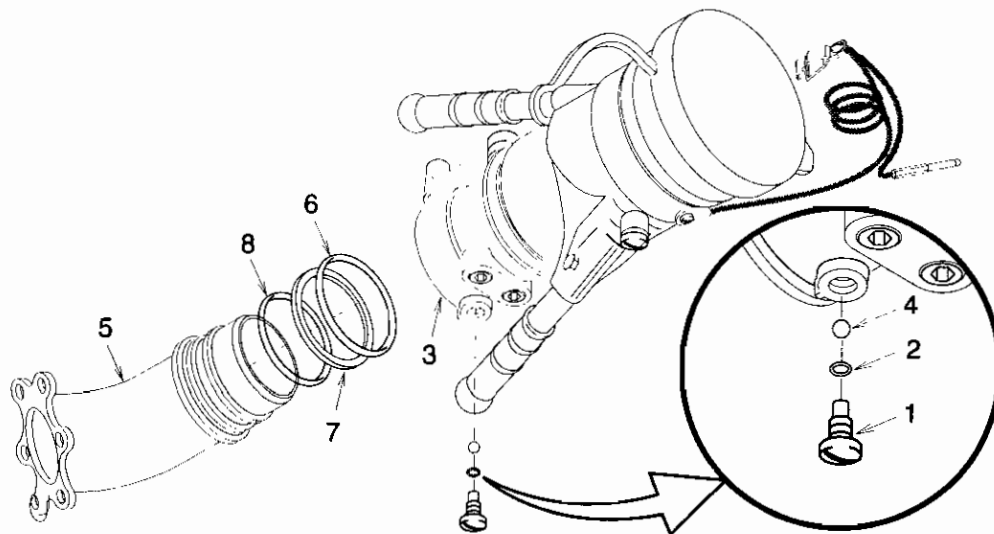

Figure 4-4. Inlet Elbow
- (3) Hold the fuel nozzle body (3) with bolt hole vertical (pointed down) and allow all balls (4) to be removed through the bolt hole. Rotation between the body and the inlet elbow (5) will be required to allow the balls to fall out of the hole.
- (4) Slip the inlet elbow (5) out of the fuel nozzle body (3).
- (5) Remove O-ring (6), seal (7), and O-ring (8) from elbow (5) and discard.
b. Installation See figure 4-4.
- (1) Lubricate and install new O-rings (6) and (8), in the groove in elbow (5) and fuel nozzle body (3), lubricate and install new seal (7) onto inlet elbow (5) on top of O-ring.
- (2) Insert elbow (5) into fuel nozzle body (3) so that bearing race aligns with screw hole in body.